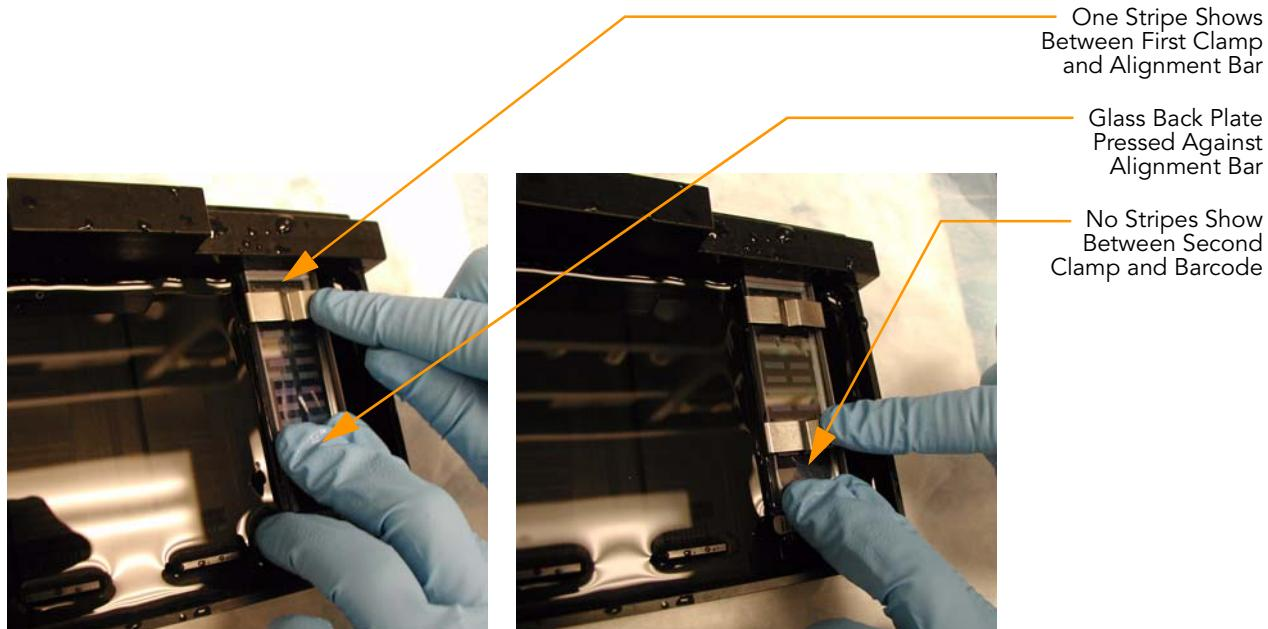

Figure 51 Securing Flow-Through Chamber Assembly with Metal Clamps
7. Attach the metal clamps onto each Flow-Through Chamber as follows (Figure 51):